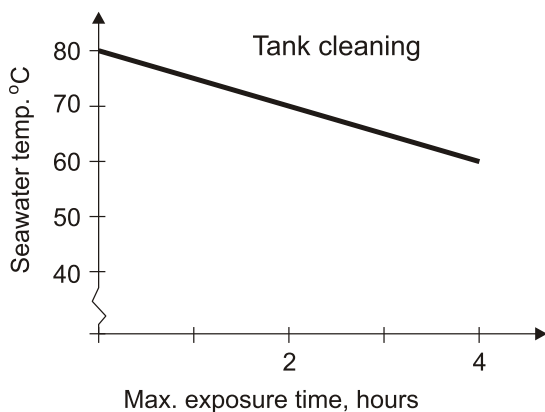

Fig. 26
- In general the tank cleaning should be carried out within limited time frame at temperature below 60°C. Higher temperature up to 80°C can be used for a shorter period. (Fig. 26, for guidance only.)